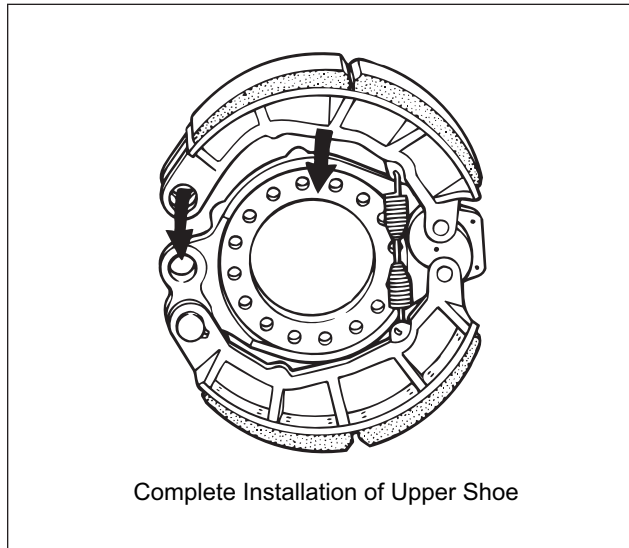

**Figure 78. Lower Shoe Positioning**
7. Place the lower shoe in position on the spider, and install lower anchor pin, washers and retaining rings. Refer to Figure 78.